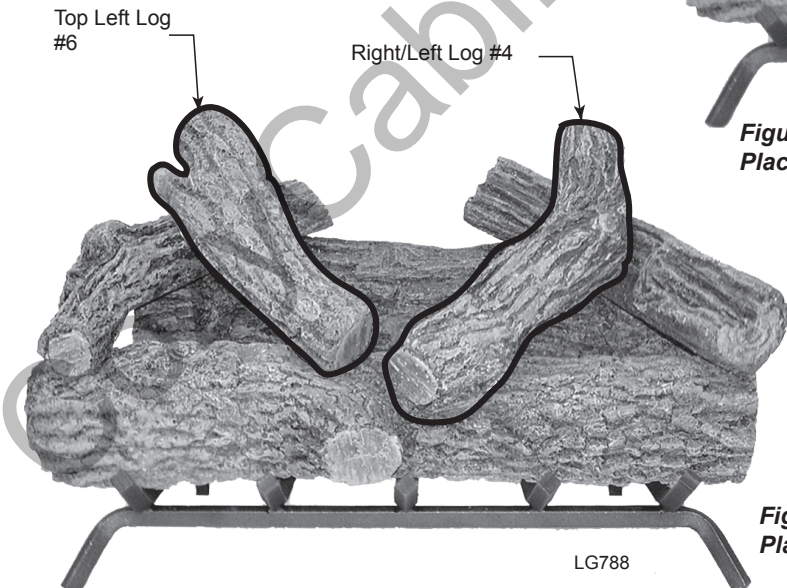

Figure 19 - Place Right/Left Log #4 and Top Left Log #6
5. Rest Right/Left Log #4 on Log #3 and Log #1. *Figure 19*
6. Rest Top Left Log #6 on Log #4 and Log #1. *Figure 19*